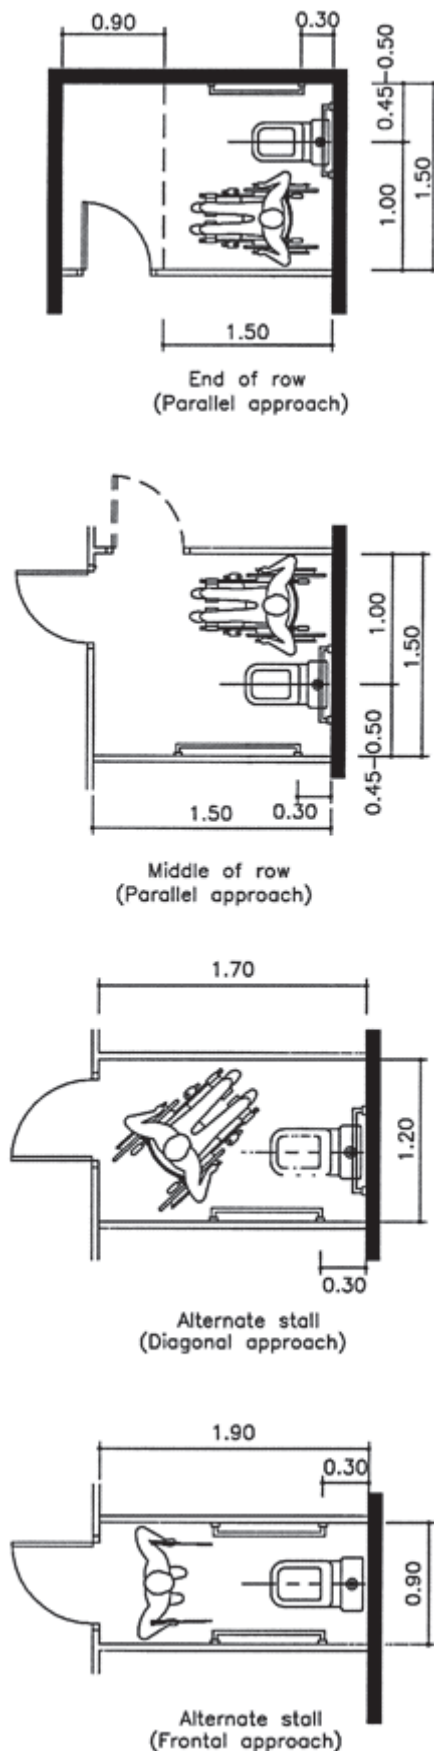
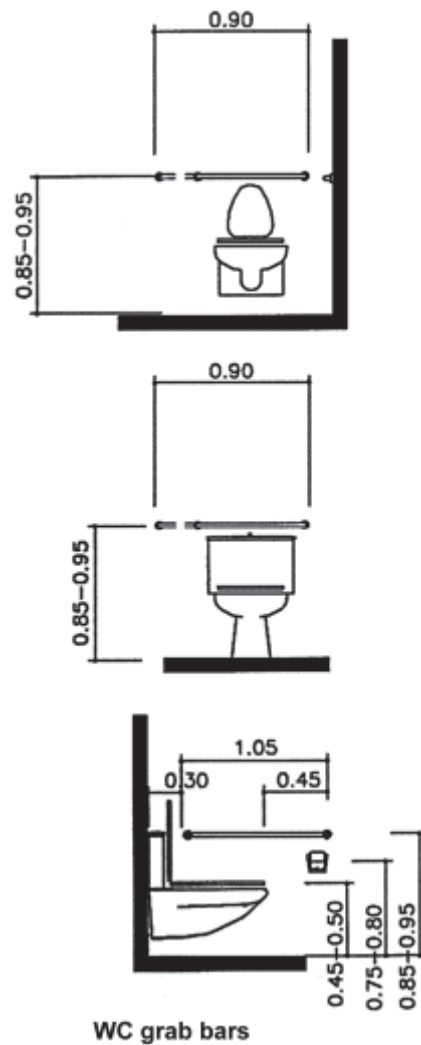

Fig. 7
Fig. 8
- The size and layout of water-closets and toilet stalls should comply with the minimum requirement (fig. 7) (fig. 8).